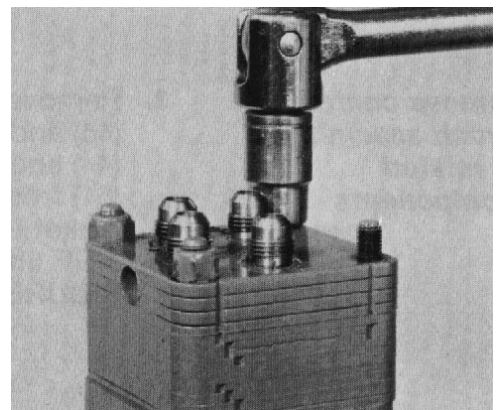

Figure 28
3. Remove the four nuts from the port cover assembly. Be careful not to damage the ports (Fig. 28).